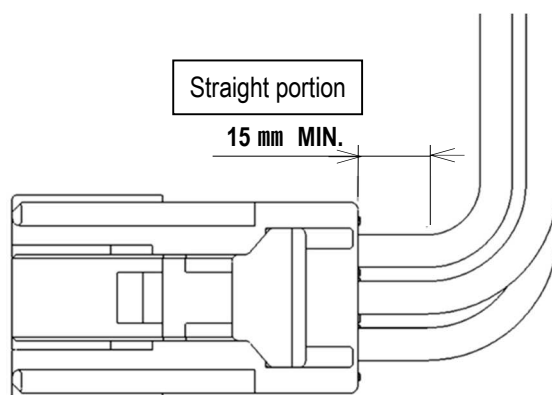

Fig 56. Arrangement of wires
- ① When arranging the wires horizontally, to avoid excessive stress to the sidewalls and female terminals, and the female terminal leaning in the core hole, please keep the wires straight (at least 15mm) from connector as shown in Fig.56
- ② Once straight portion is secured, arrange the wires with adequately large R.